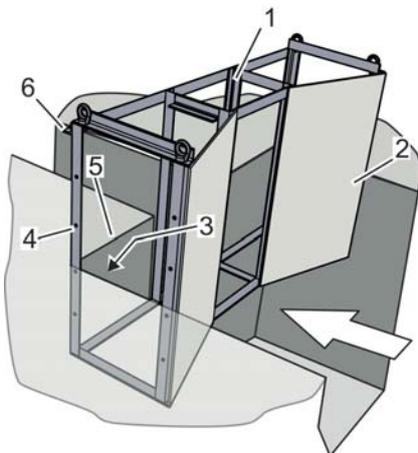

Fig. 31: Lowering the reception structure into the channel, example
Carefully lift the reception structure (Fig. 31), swing it over the channel and slowly lower it, aligned with the funnel surfaces (Fig. 31/2) opposite the flow direction of the liquid flow, down to the ground or until the support bracket (Fig. 31/6) makes contact with the support edge (Fig. 31/5).
5. → Attach the reception structure through the boreholes (Fig. 31/4) against the channel wall using suitable fastening materials.